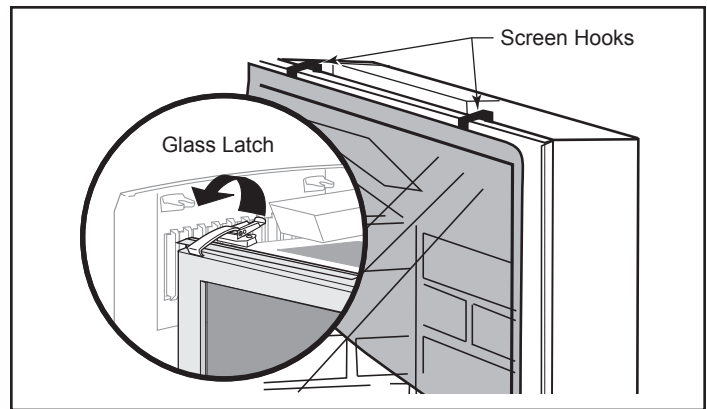

Figure 28 - Remove the screen or glass panel.
3. Remove the screen by lifting up and away from the unit. Or, if so equipped, remove the glass panel by releasing the two upper retainer latches. Lift the panel up and off of the firebox frame. (Figure 28)